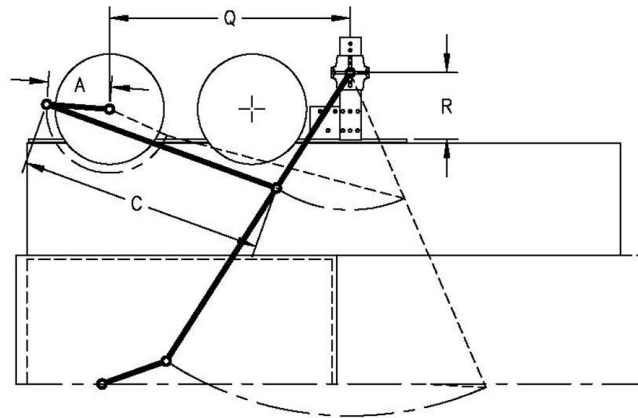

Figure 8: SS Operator Setup
4. Use the Operator Data Tables available at www.gal.com/products/door-equipment/operators/ for a starting point of the A, C, Q, and R dimensions, as shown in **Figure 8**.
5. With the car door closed, adjust the drive arm, using R and Q dimensions in **Figure 8**, so the clutch link is at $\sim 20^\circ$ above horizontal.